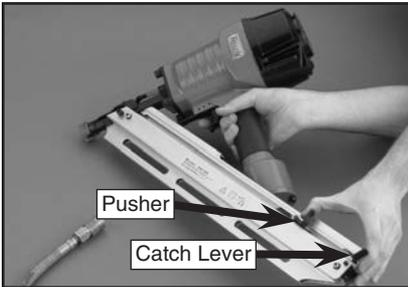

Figure 3. Sliding pusher toward the catch lever.
2. Grip the nailer firmly, pull the magazine pusher back, and engage the catch lever as shown in **Figure 3**.